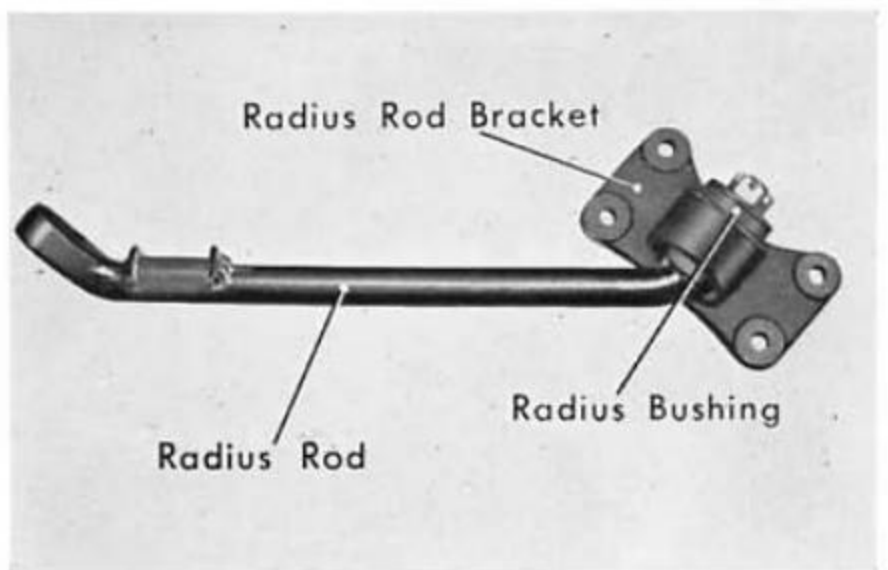

Fig. 15A-9
- Remove the cotter pin, nut, damper washer and disassemble the front damper from the lower arm (Fig. 15A-10).